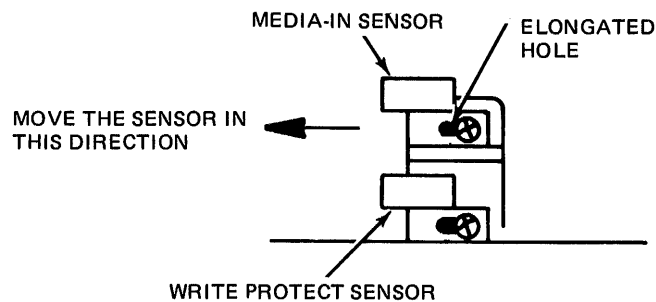

Figure 4-9 Installing the Write Protect or Media-In Sensor
- b. Push the sensor towards the front of the disk drive until the shaft of screw touches the rear of the elongated hole in the sensor (see Figure 4-9).